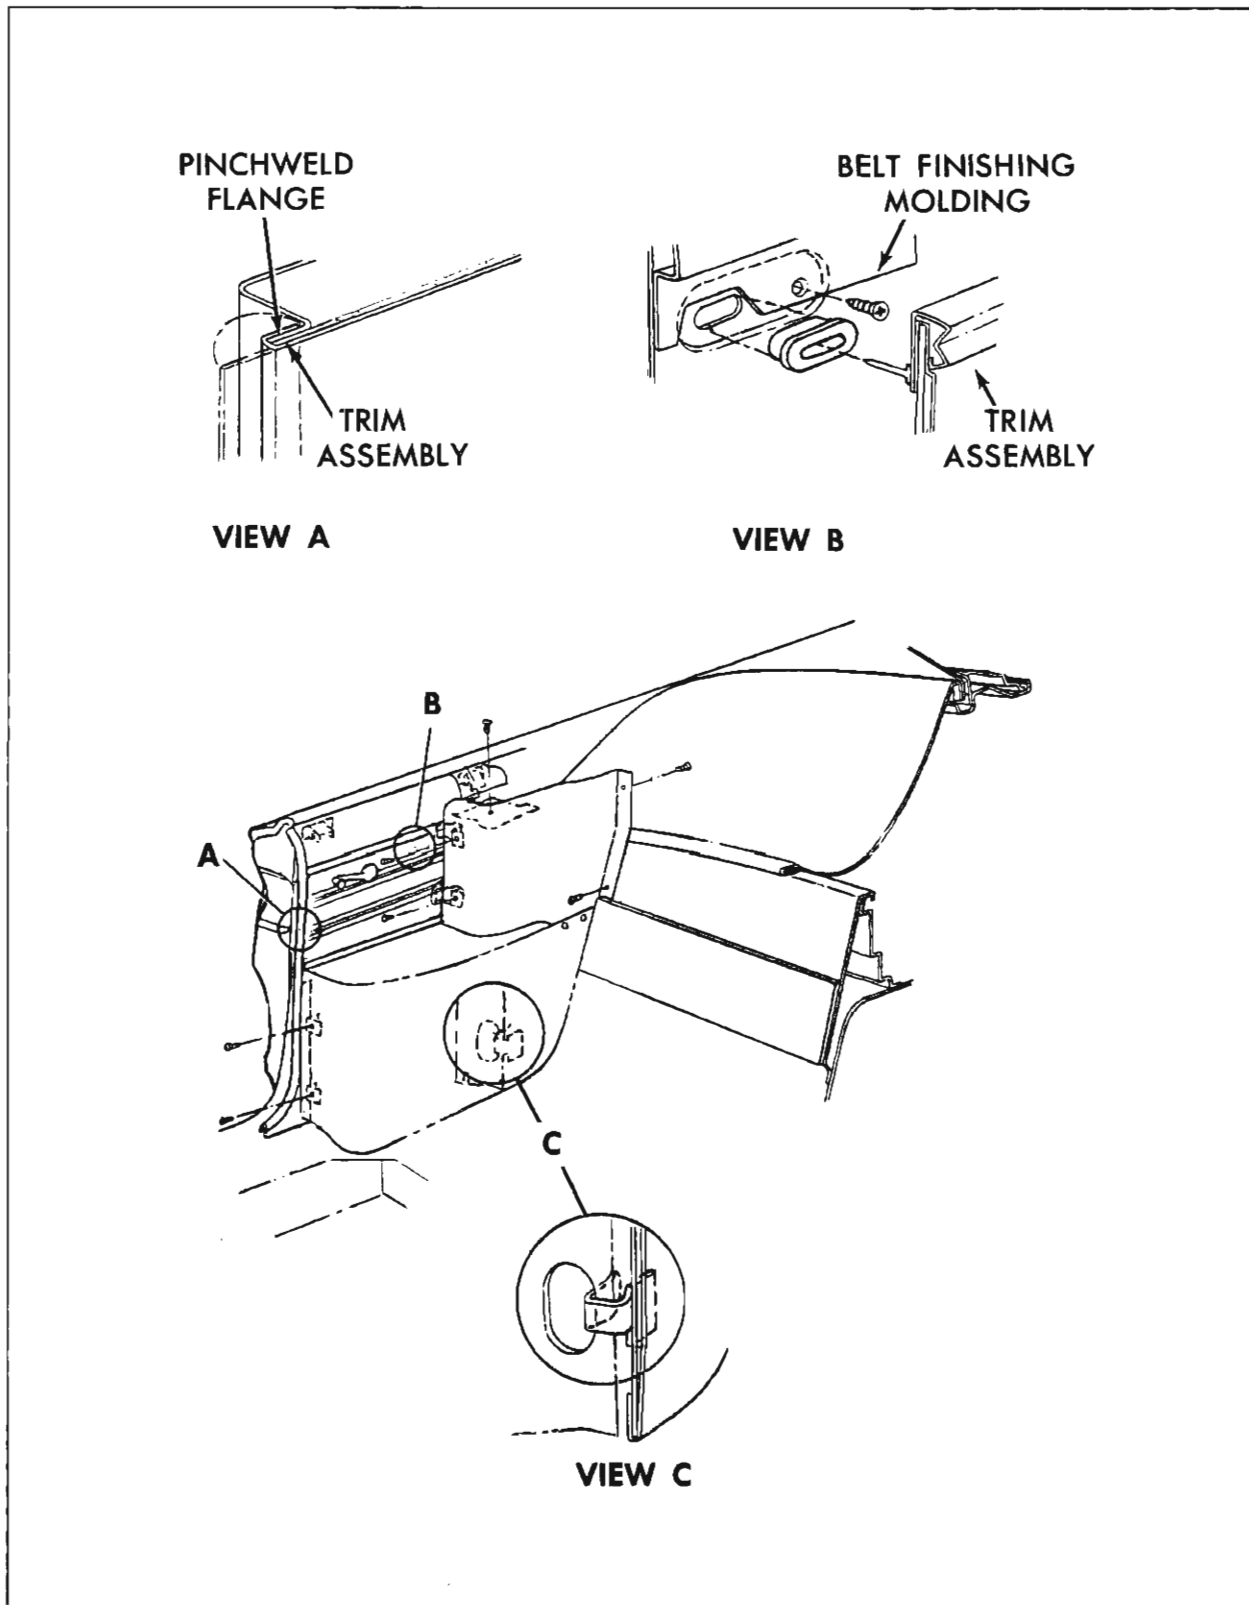

Fig. 13-5 Rear Quarter Trim Assembly
2. Remove screws securing folding top compartment side trim panel assembly (Fig. 13-5). Disengage side trim panel assembly retainer from folding top compartment brace ("C", Fig. 13-5). Disconnect electrical leads, where present, and remove side trim panel assembly.
3. Disengage pinchweld finishing strip from pinchweld flange immediately adjacent to trim assembly upper section. Using trim pad removing tool J-6335, disengage trim assembly retaining nails from inner panel along upper edge of trim assembly (View "B", Fig. 13-5).
4. Disengage forward edge of trim foundation from retainers on inner panel (View "A", Fig. 13-5). Pivot rear edge of trim assembly forward, using forward edge, which overlaps pinchweld and is cemented to pinchweld flange outboard surface, as a hinge (View "A", Fig. 13-5).